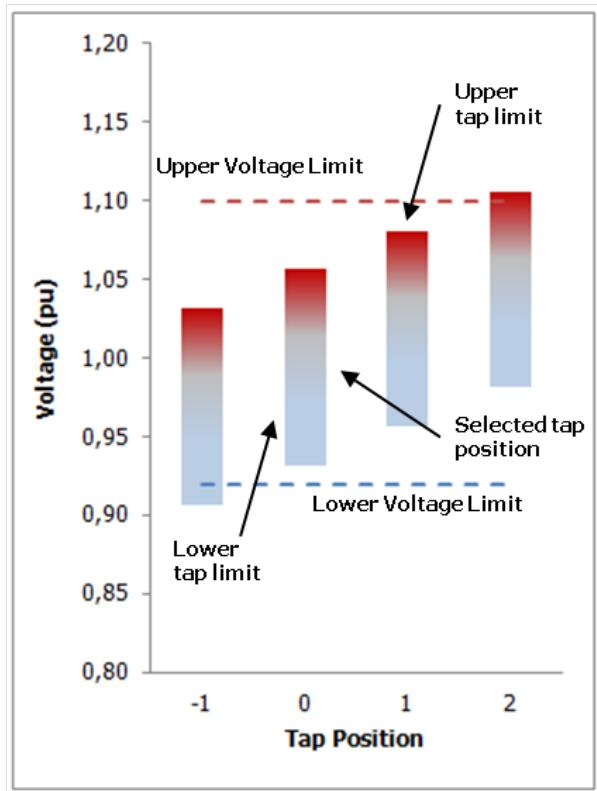

Figure 41.3.3: Voltage limits for LV grids with the objective function *Maximisation of generation* selected
2. The *Upper tap limit* and *Lower tap limit* are calculated based on settings that will keep the range of expected LV grid voltages within the *Upper voltage limit* and *Lower voltage limit*. This is illustrated in Figure 41.3.3, where the limits are set to between 0.92 p.u. and 1.10 p.u. In cases where only *Production case* or *Consumption case* is set, only the corresponding voltages within the LV grid will be considered.
3. Both tap positions “0” and “1” would be acceptable, and maintain transformer voltage drop and LV grid voltages within acceptable limits. The optimisation routine selects the optimal tap position based on the objective function defined in the command. Figure 41.3.3 shows an example for the objective function *Maximisation of generation*. The lower tap limit (position “0” in Figure 41.3.3) is selected in order to minimise the voltage rise.